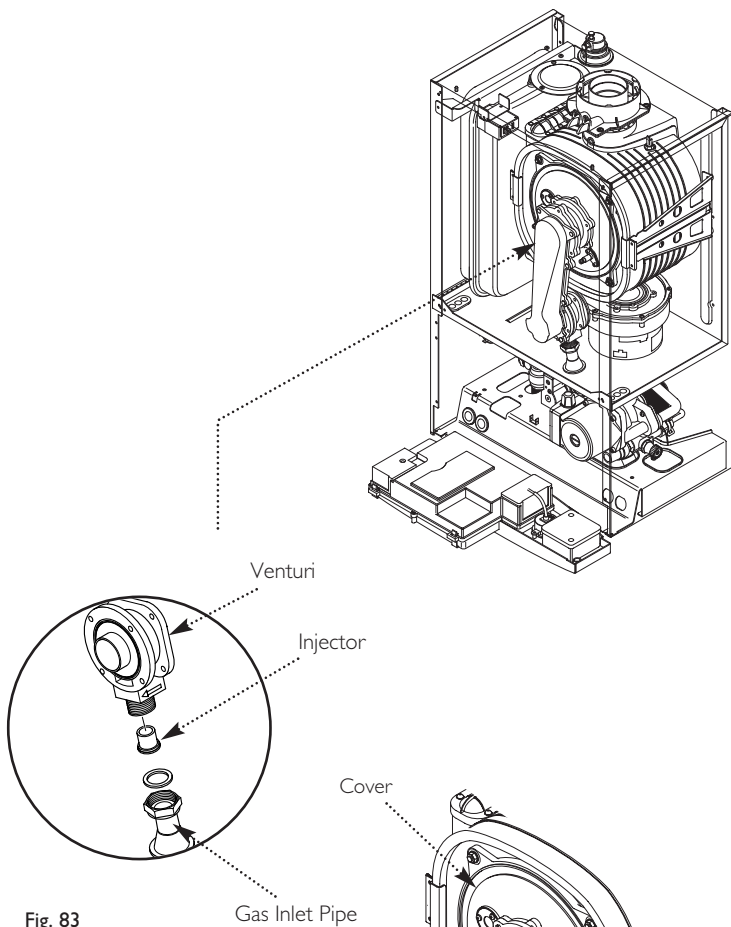

Fig. 83
14.3 Fan (Fig. 83)
1. Undo the nut on the gas inlet pipe to the venturi (Fig. 83) and pull the sensing pipe off the fan.